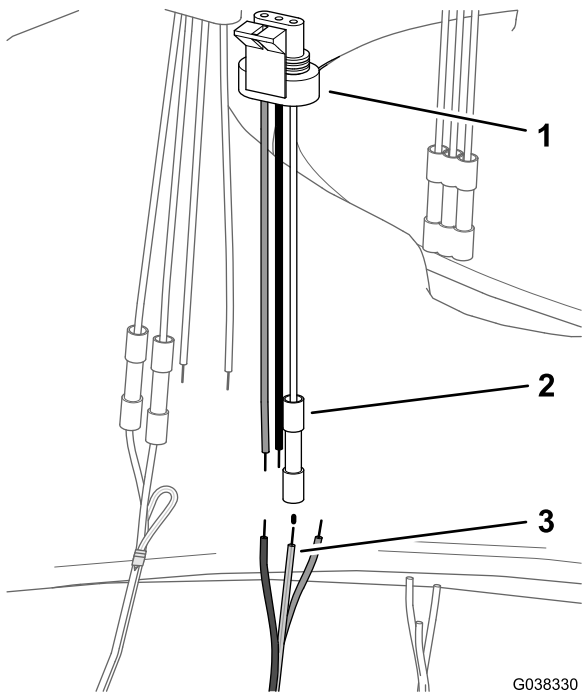

Figure 43
- 3. Align the yellow and green wire of the DIN harness with the white wire of the 3-pin adapter for the agitation-valve (Figure 43); refer to the wire table for the agitation valve.